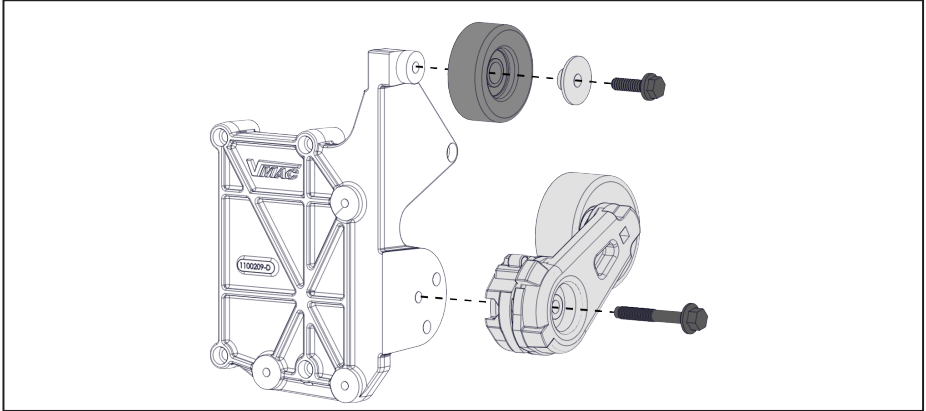

Figure 8 — VMAC main bracket assembly
- Remove the idler and tensioner from the VMAC main bracket (Figure 8).